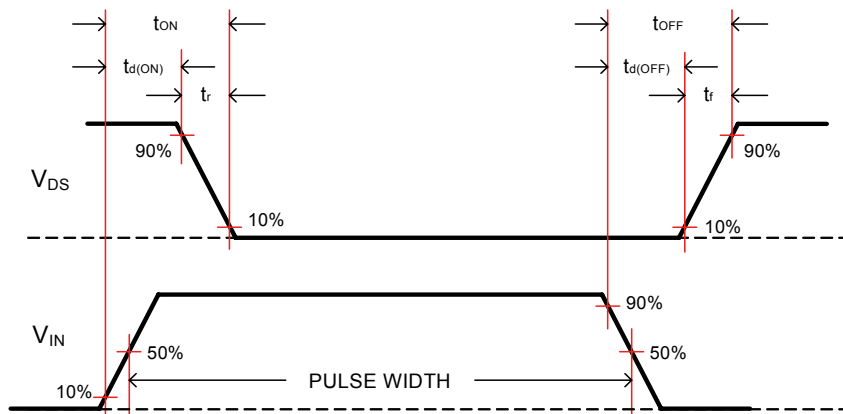

Figure 14. Switching Test Waveforms
3. t_{ON} and t_{OFF} include the propagation delay time of the internal driver IC. For the detailed information, please see Figure 14.